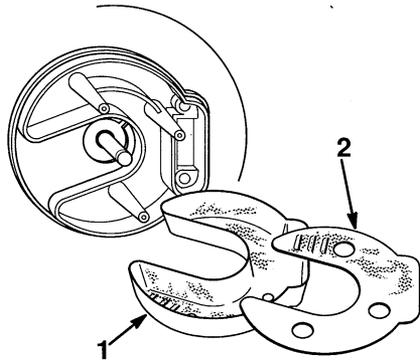

Figure 33
- Remove capscrews attaching muffler cover and baffle plate to engine mounting plate (Fig. 33).
- Install baffle and muffler cover to engine mounting plate (Fig. 33). Torque muffler capscrews to 155 in.-lbs. (13 ft.-lbs.) (18 Nm).